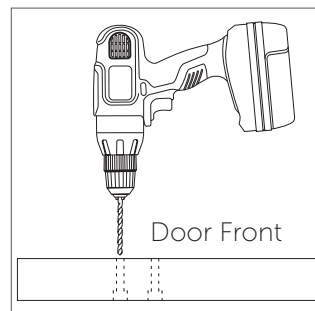

Figure 5
8. Turn the door over, returning it to the face-up position. Drill all the way through the pilot holes using a drill with a 3/8" drill bit (Figure 5).
8. Install remaining spacers with lag screws and washers using a 9/16" socket wrench (Figure 5). Tighten all lag screws.